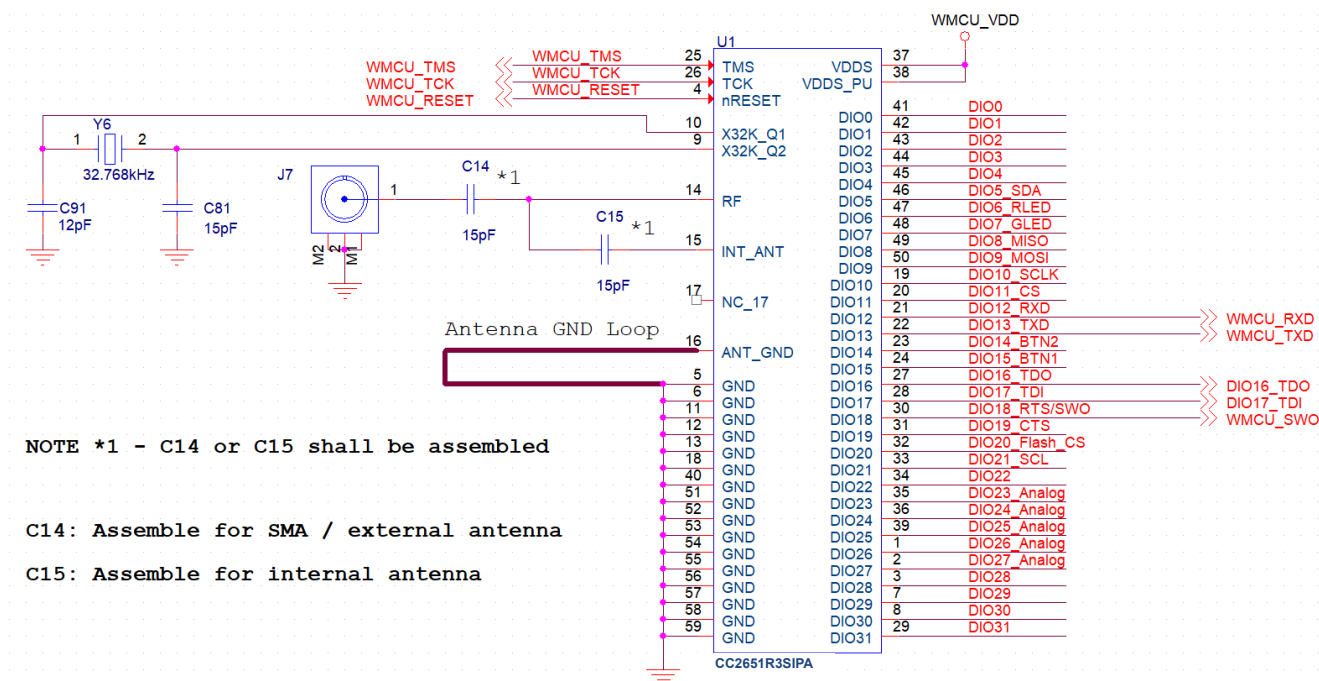

图 10-1. CC2651R3SIPA Typical Application Schematic
图 10-1 shows the typical application schematic using the CC2651R3SIPA module. Note that C15 should be assembled when using the integrated antenna option within the module and when the layout design guidelines in 节 10.4.2 are strictly followed. If the layout guidelines described in 节 10.4.2 cannot be followed, it is recommended to implement the alternate application circuit schematic in 节 10.2 and follow the alternate layout guidelines in 节 10.4.4.
表 10-1 provides the bill of materials for a typical application using the CC2651R3SIPA module with the internal antenna as shown in 图 10-1, while 表 10-2 provides the bill of materials for a typical application using the CC2651R3SIPA module with an external antenna as shown in 图 10-2
In order to meet the module power-on-reset requirements, VDDS (Pin 37) and VDDS_PU (Pin 38) should be connected together. If the reset signal is not based upon a power-on-reset and is derived from an external MCU, then VDDS_PU (Pin 38) should be No Connect (NC). Please refer to 图 10-1 for the recommended circuit implementation.